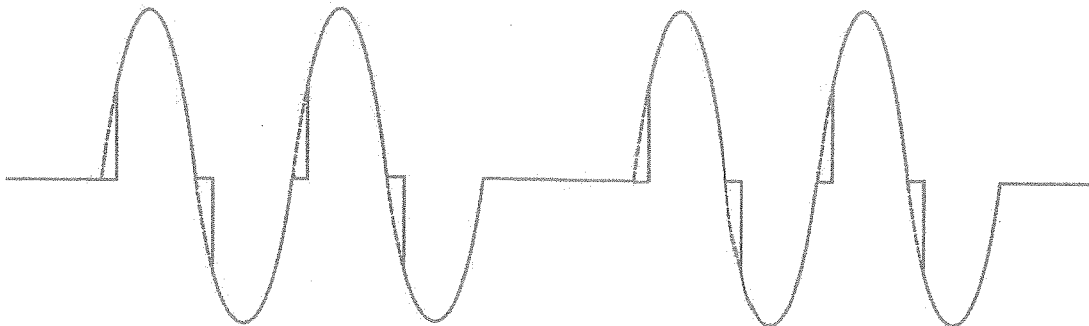

Figure Q4 (c)
- c) You are asked to generate the voltage waveform shown in Figure Q4 (c).